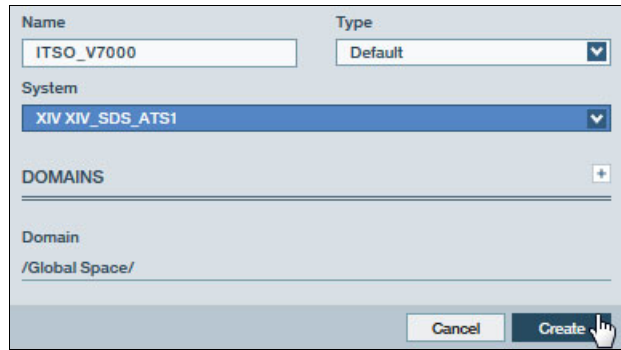

Figure 4-5 Defining a Storwize V7000 cluster to map to the IBM Spectrum Accelerate system
2. Define the Storwize V7000 cluster either by filling out the fields and clicking **Create**, as shown in Figure 4-5 on page 53, or by using the XCLI, as shown Example 4-3 on page 53. A Storwize V7000 cluster consists of several nodes, with each Storwize V7000 node defined as a separate host. Leave the default for Cluster Type. All volumes that you are mapping to the Storwize V7000 system are mapped to the cluster to avoid problems with mismatched logical unit number (LUN) IDs.